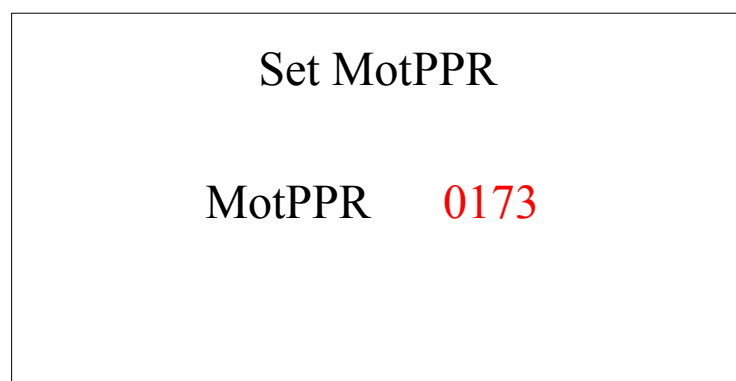

Figure-29 Set MotPPR
3.2.5 Set MotPPR. First press S1 go to set interface, Second press S2 or S3 choose Set MotPPR position as shown in Figure-17, Third press S1 go to Figure-29.